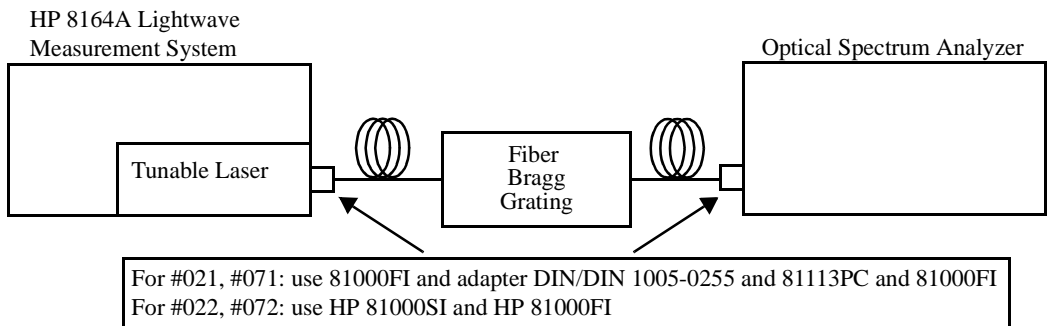

Figure D-9 Test Setup for the Source Spontaneous Emission Test
- 1 Connect the Tunable Laser module (DUT) to the Optical Spectrum Analyzer as shown in Figure D-9. Connect the one end of the fiber to Output 1, the Low SSE output, and the other to the Optical Spectrum Analyzer.